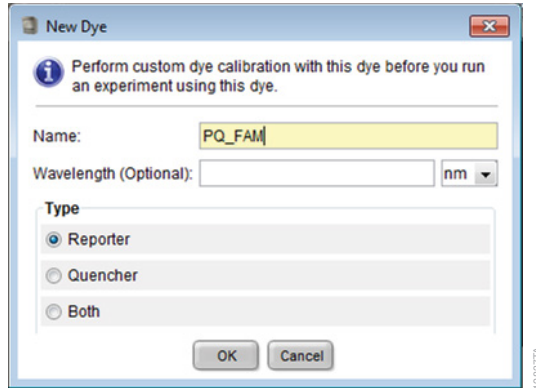

Figure 9. Naming the new dye.
9. Enter "PQ_FAM" as the new dye name, select the **Reporter** radio button under Type and then select **OK** (Figure 9). Repeat this process to define the CFG540 (define as PQ_CFG540), TMR (define as PQ_TMR) and Q670 (define as PQ_Q670) dyes.